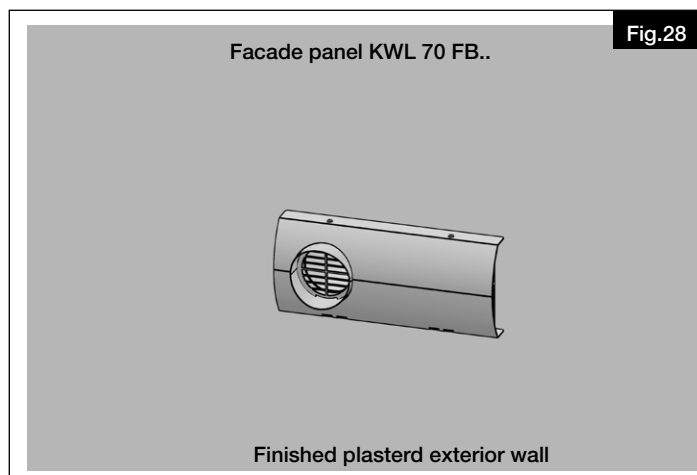

Fig.28
4. For the installation of the facade panel KWL 70 FB, refer to the installation and operating instructions KWL 70 FB (Print no. 21392), see Fig.28.